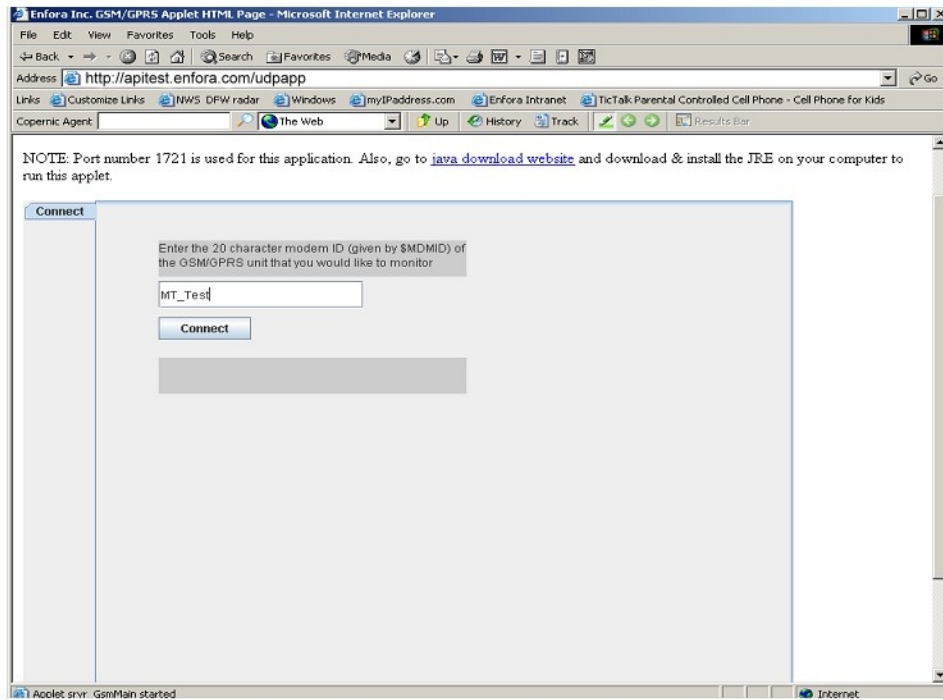

Figure: 44 - Verify Server Connectivity
2. Enter the name used in the MDMID command in the box. Select Connect See Figure: 44 - "Verify Server Connectivity"